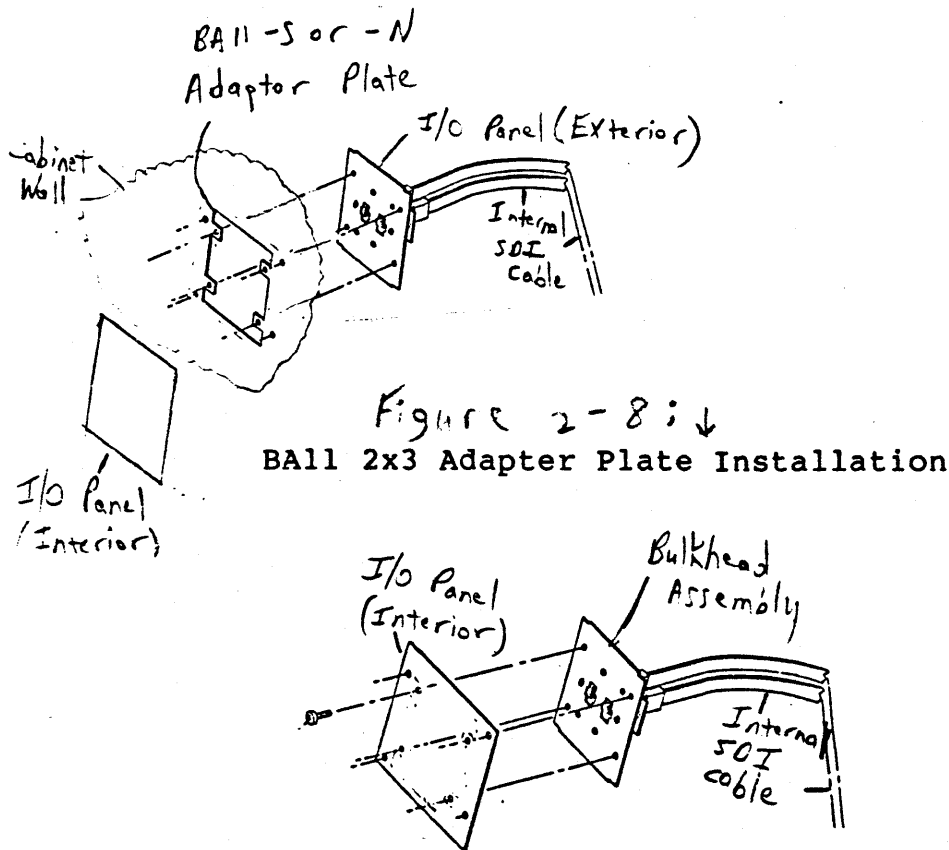

Figure 2-9: Bulkhead to I/O Panel Attachment
- 2) Using four sem screws, attach the bulkhead assembly to the I/O panel. Make sure the EVEN marking is at the top or left as viewed from the outside of the I/O panel. Refer to Figure 2-9.